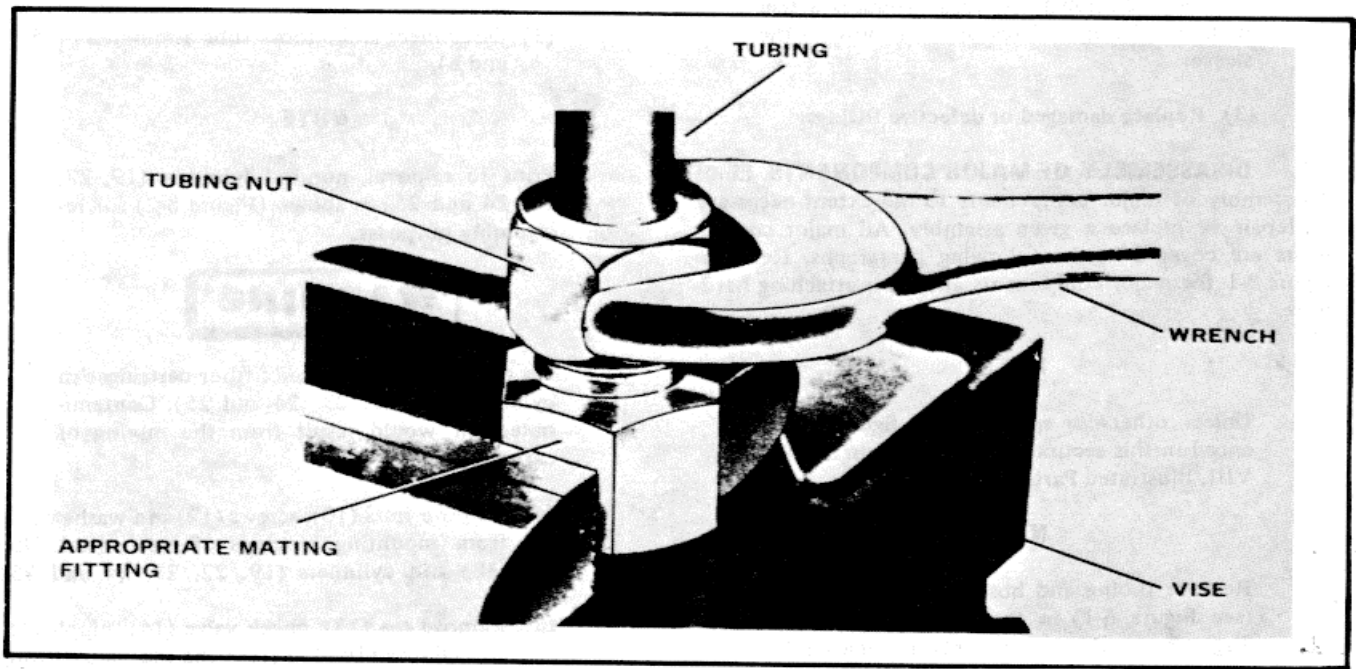

Figure 6-2. Presetting Tubing Sleeve
- (c) Insert the end of the tubing into mating fitting, see Figure 6-2. Make certain that tubing end is bottomed on fitting shoulder. Apply a good grade of lubricant on end of tubing.